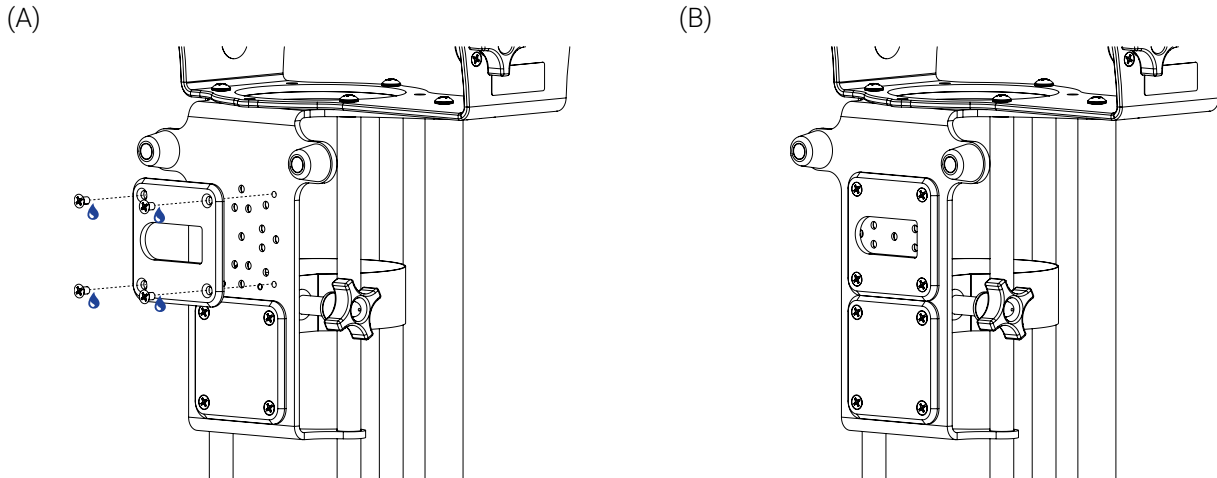

Figure 21: Re-installing the anchor plate
6. Re-install the anchor plate re-using the four (4) screws (previously removed in step 4) coated with medium strength thread lock adhesive and a Phillips screwdriver #2 (Figure 21).